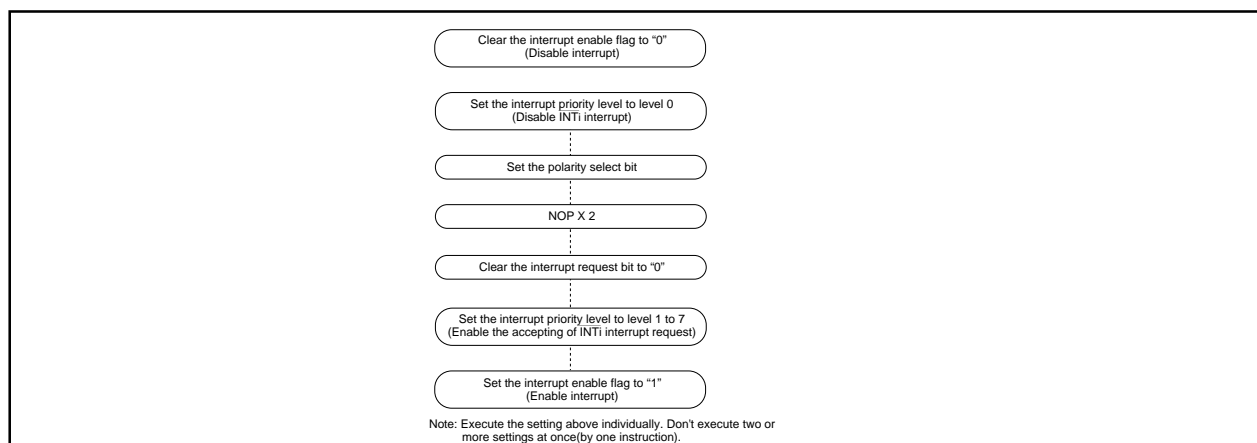

Figure 1.10.13. Switching condition of INT interrupt request
- When the polarity of the  $\overline{\text{INT0}}$  to  $\overline{\text{INT2}}$  pins is changed, the interrupt request bit is sometimes set to "1". After changing the polarity, set the interrupt request bit to "0". Figure 1.10.13 shows the procedure for changing the  $\overline{\text{INT}}$  interrupt generate factor.